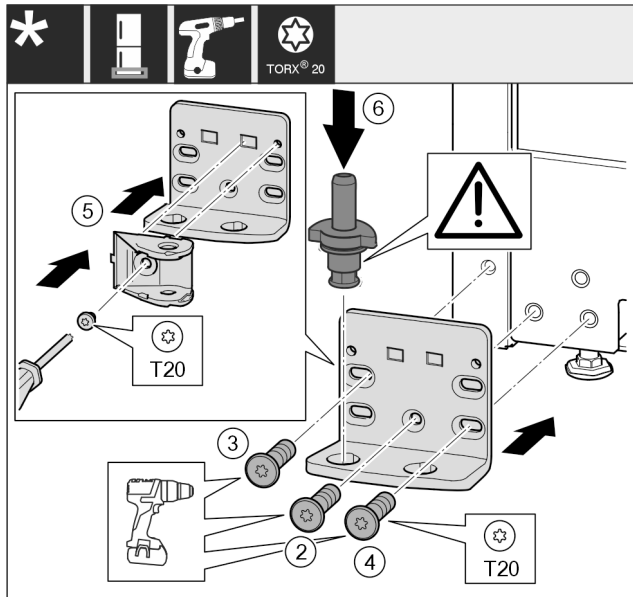

Fig. 15 *
- Place the bearing bracket on the other side and screw it in using the T20 screwdriver. Start with screw 2 at the bottom in the middle. Fig. 15 (2)*
- Screw in screws 3 and 4. Fig. 15 (3,4)*